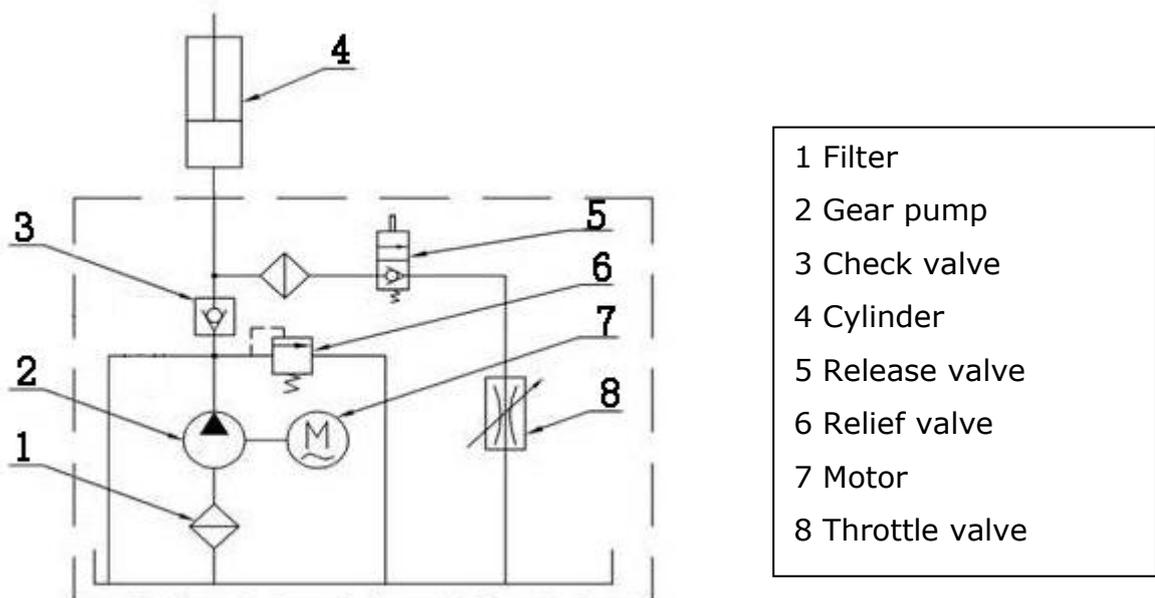

Fig. 34
1. Adjust the lower speed (See Fig.34)